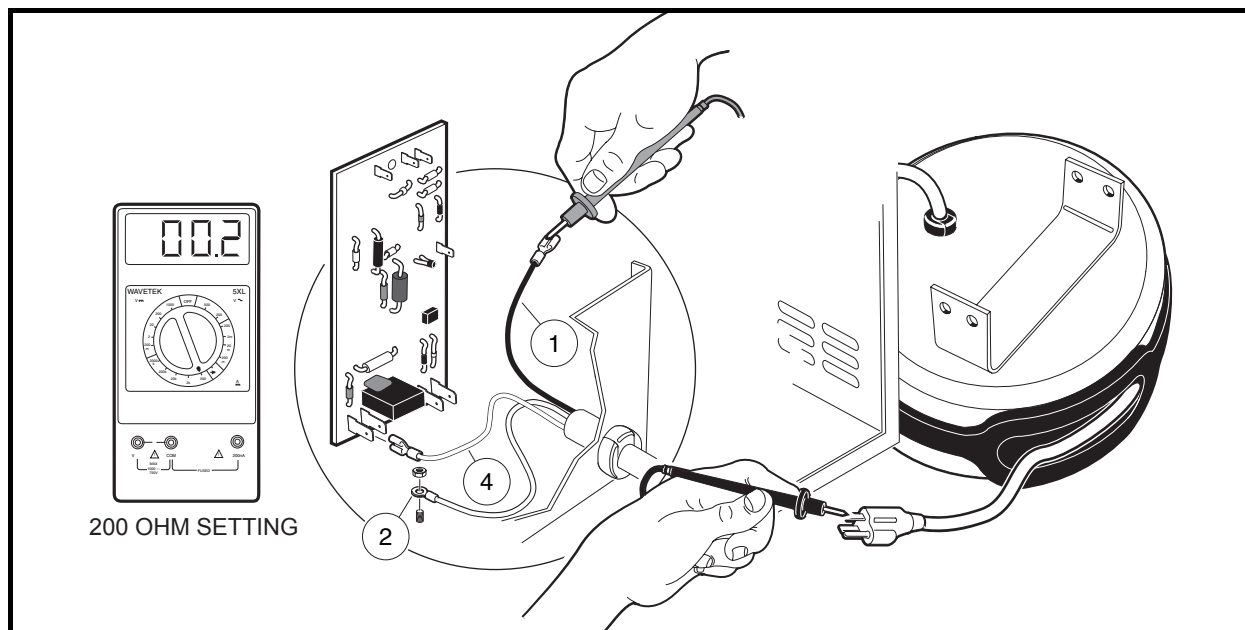

Figure 6-13 AC Cord and Retractable Cord Reel Continuity Test
4. Disconnect the green or green/yellow wire (2) from charger case and position it so it does not touch any metal part of the charger (**Figure 6-13, Page 6-19**).
5. Disconnect the black or brown wire (1) of the short AC cord from the control board.
6. Disconnect the AC cord white or blue wire (4) from the control board (**Figure 6-13, Page 6-19**).
7. Using a multimeter set for 200 ohms, place the red (+) probe on the terminal at the end of the black or brown wire (1) (**Figure 6-13, Page 6-19**). With the black (-) probe, test for continuity on each of the flat blades and then on the round pin of the AC plug (on the retractable cord reel). The tester should indicate continuity on one flat blade only. If any other reading is obtained, the short AC cord and retractable cord reel must be tested independently of each other.
8. Place the red (+) probe on the end of the green or green/yellow wire (2) and with the black probe check for continuity on both flat blades and on the round pin of the AC plug (on the retractable cord reel) (**Figure 6-13, Page 6-19**). The tester should indicate continuity on only the round pin. If any other reading is obtained, the short AC cord and retractable cord reel must be tested independently of each other.
9. Place the red (+) probe on the white or blue wire (4) and check for continuity on both flat blades and on the ground pin of the AC plug (on the retractable cord reel). The tester should indicate continuity on only one flat blade. If any other reading is obtained, the short AC cord and retractable cord reel must be tested independently of each other.